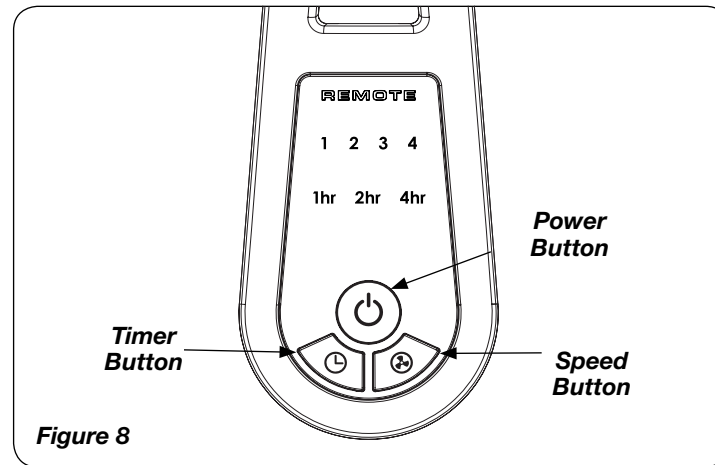
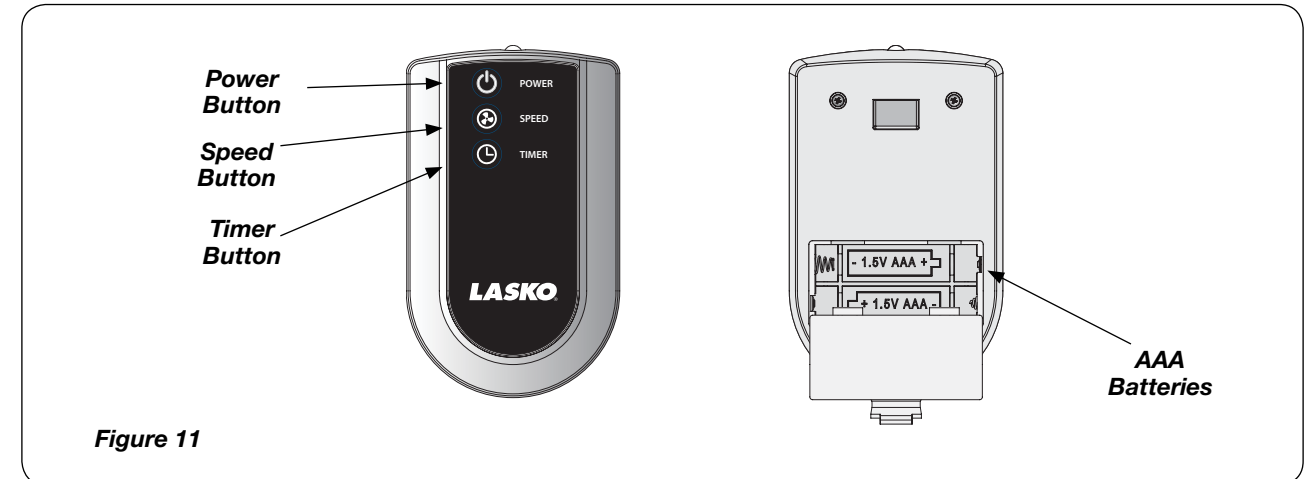

Figure 8
Figure 11
This Fan may be operated by the Manual Controls located on front of the unit (as shown in *Figure 8*) or by the Remote Control (shown in *Figure 11*).
1. Install batteries supplied as shown in *Figure 11*. The battery is type “AAA”.